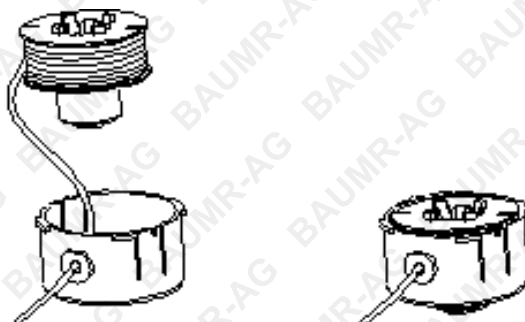

FIG. 9
5. Insert the line through the eyelet in the spool carrier and slide the spool into it (FIG. 9).